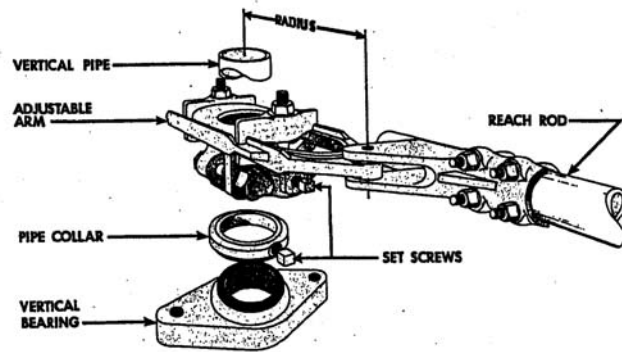

Figure 16 - Adjustable arm assembly. CAUTION: Pipe collar must support full weight of pipe.
- E - Pipe Collar (See Cautionary Note, Figure 16)